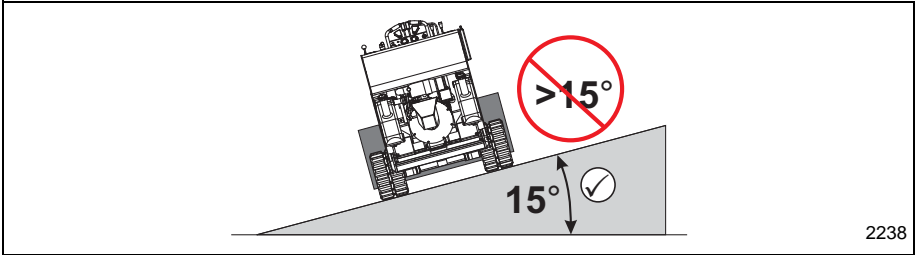

Figure 3-23 Slide Slope Travel
- Do not travel up or across a slope steeper than 15°. See **Figure 3-23**.